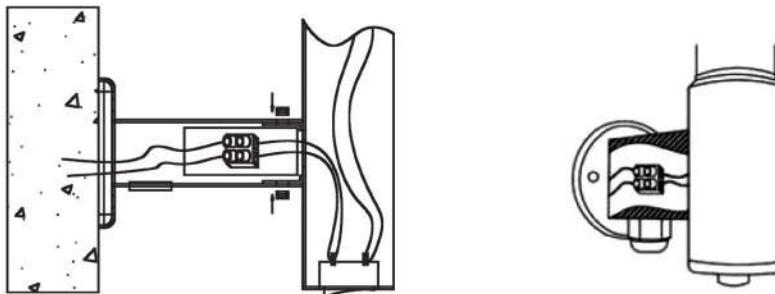

Figure 4
- Put the connecting plinth in the protecting cover, fasten the two parts of protective cover by the small screws and place it inside the connection box (see figure 4).